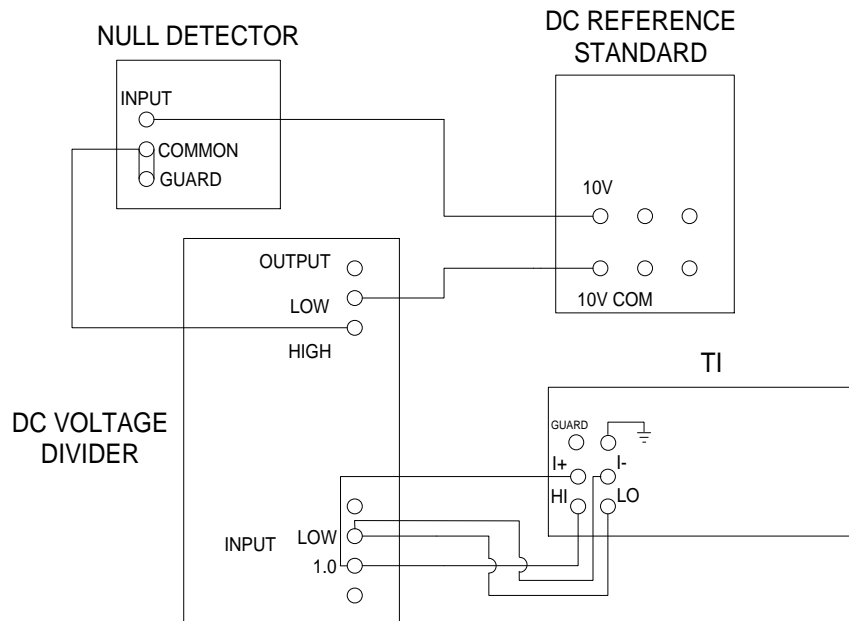

Figure 1.
4.5.16 Disconnect the Null Detector from TI and connect equipment as shown in Figure 1.